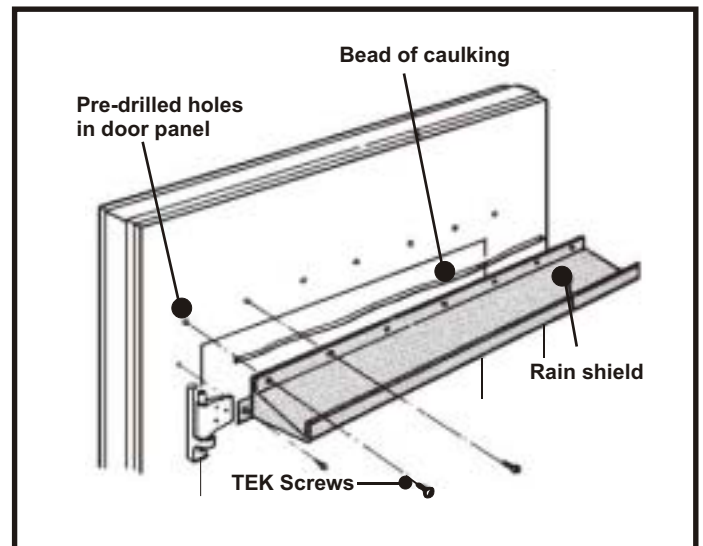

Fig. 37
- Hinged entrance doors to be installed outdoors are supplied with rain shields, which are installed at the tops of the doors. Install the shields at the job site as shown in Fig. 37.